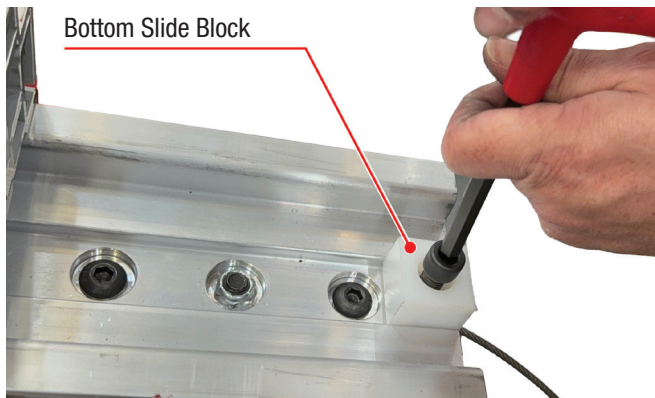

Figure 4-18: Installing Bottom Slide Block
46. Install the bottom slide block on the second mast (see Figure 4-18). Do not overtighten the slide block bolt as this may deform the slide block and cause unnecessary friction. Torque to 10-13 ft-lbs.